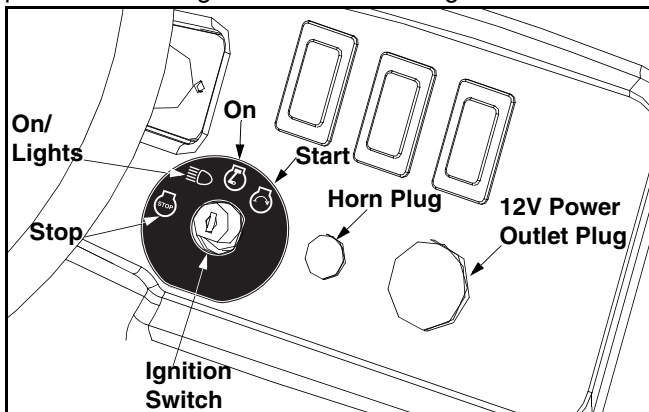

Figure 4
The ignition switch is located on the right side of the dash panel. To start the engine, insert the key into the ignition switch and turn clockwise to the **START** position. Release the key into the **ON** or **ON/LIGHTS** position once engine has fired. See Figure 4.
The horn switch is located on the right side of the dash panel. Push button to activate horn. See Figure 4.
The 12V power outlet is located on the right side of the dash panel. It is used for the convenience of plugging in accessories that require a power source with a maximum load of 5 amps at 12 volts. See Figure 4.
- Turn the key one notch counterclockwise into the On/Lights position of the ignition switch. Refer to Figure 4.
- Turn the key either into the On position (to leave the engine running) or the Stop position (to shut the engine off). Refer to Figure 4.